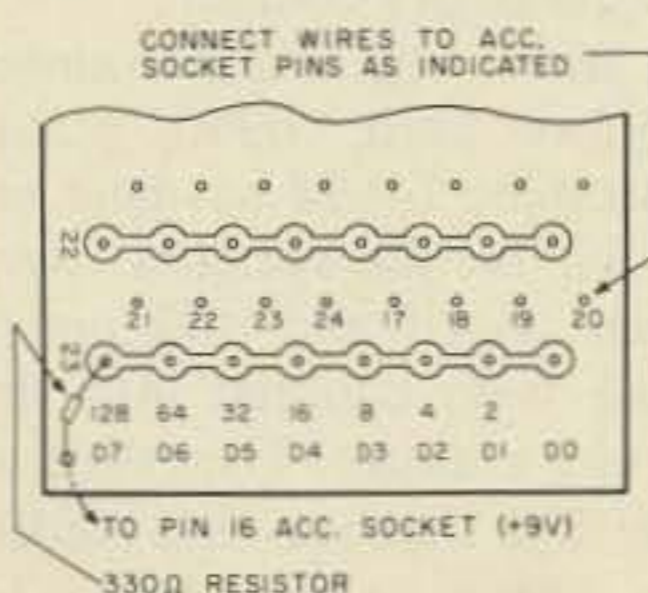

Fig. 3. Top of matrix board.
7. Connect a 330 Ohm 1/4 Watt resistor between the matrix board position 23 common bar, as shown in Fig. 3, and pin 16 of the accessory socket. The end of the resistor should be inserted through an existing hole in the corner of the PC board for stability. The wire from this resistor goes to pin 16 (+9 V) of the accessory socket.
9. Install 8 wires from the matrix board channel 23 position locations D7, D6, D5, D4, D3, D2, D1, and D0, as shown in Fig. 3. The wires should connect to the 24-pin accessory socket, as shown in the accessory socket pin assignment (Fig. 5).